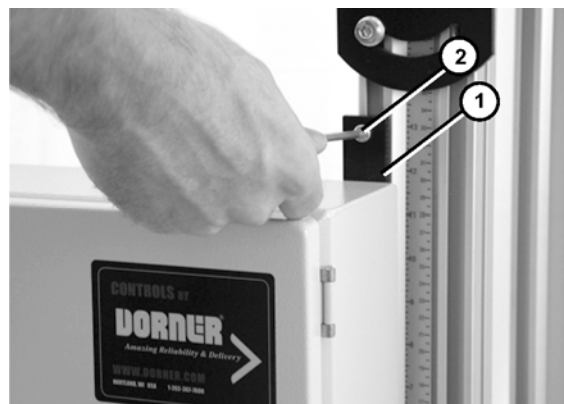

Figure 7
4. Partially thread controller mounting bar (**Figure 7, item 1**) to top t-nut with screw (**Figure 7, item 2**).